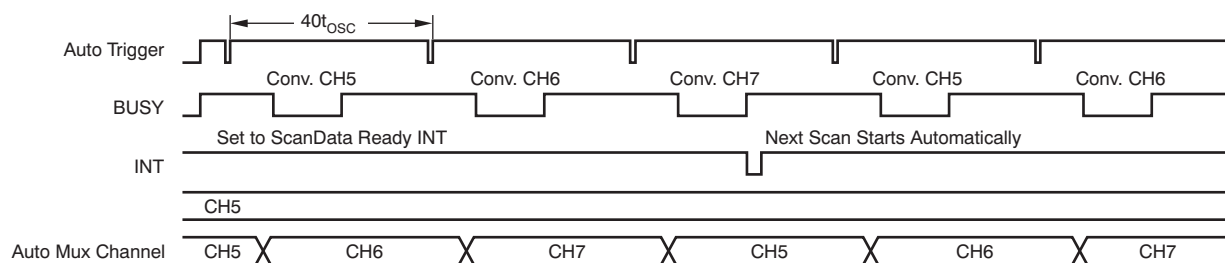

Figure 24. Mode 6 Timing
Multi-Scan Mode (Mode 6) (1)	ADC SCR, bit D[1] = '1'; FIFO buffer enabled (as shown in <a href="#">Figure 24</a> )
ADC SCR, bit D[1] = '0'; FIFO buffer disabled (as shown in <a href="#">Figure 24</a> )